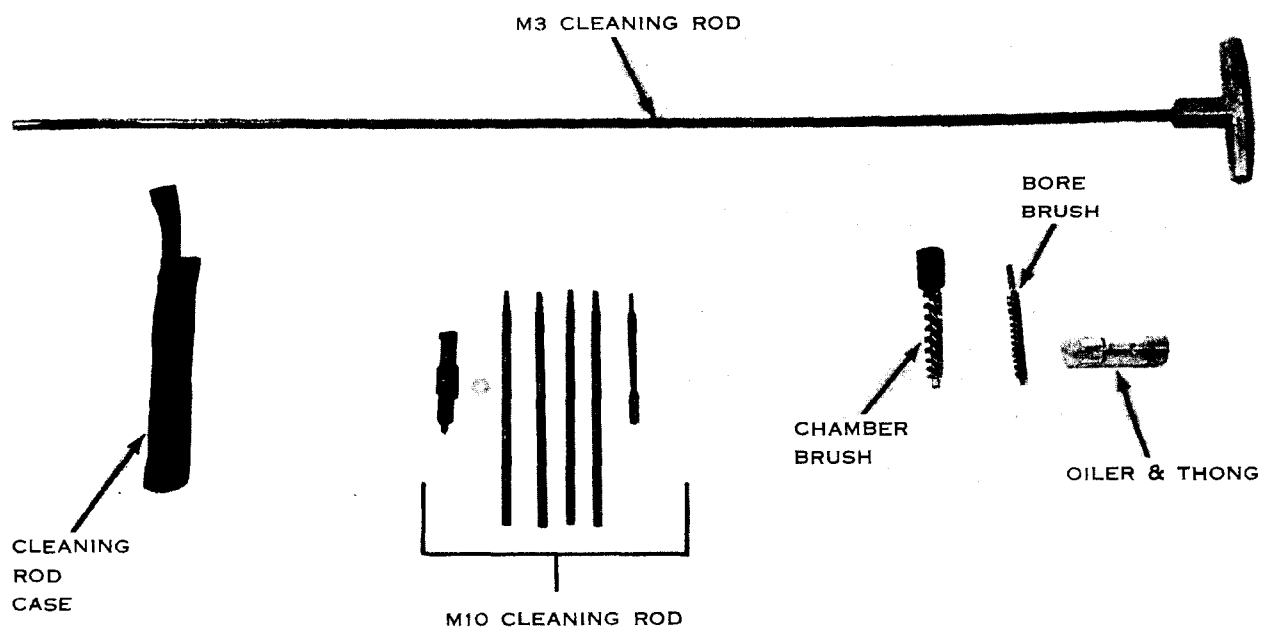

Figure 34. Cleaning equipment.
c. *Equipment.* A complete set of maintenance equipment (figs. 34 and 35) is stored in the stocks of the M1 and M1C rifles and consists of—
- (1) M10 cleaning rod (4 sections with handle and plastic buffer).
- (2) Small arms bore cleaning brush.
- (3) Lubricant case.
- (4) Chamber cleaning brush.¹
- (5) Cleaning rod case.